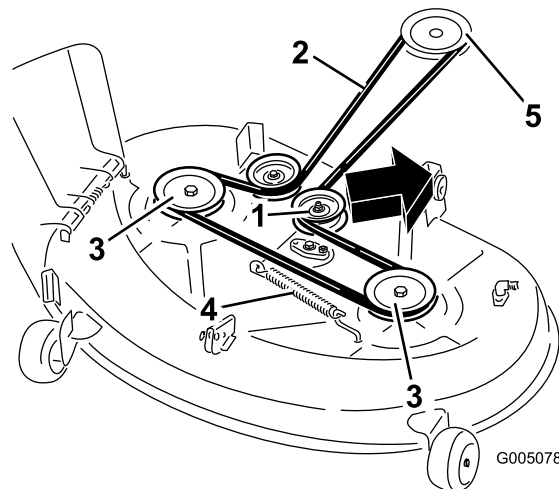

Figure 48
5. Pull the idler pulley in the direction shown in Figure 48 and roll the belt off of the pulleys.
6. Route the new belt around the engine pulley and mower pulleys (Figure 48).
7. Pull the idler pulley in the direction shown in Figure 48 and route the belt onto the idler pulley (Figure 48).